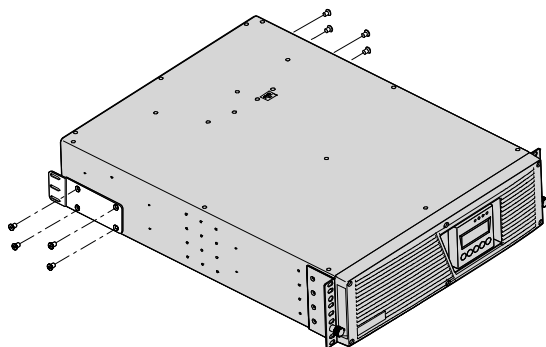

Figure 8. Installing the Rear Hold-Down Brackets
11. **Optional.** Install the rear hold-down brackets (included with the rail kit) if you need to move the rack enclosure with the UPS already rack-mounted inside (see Figure 8).